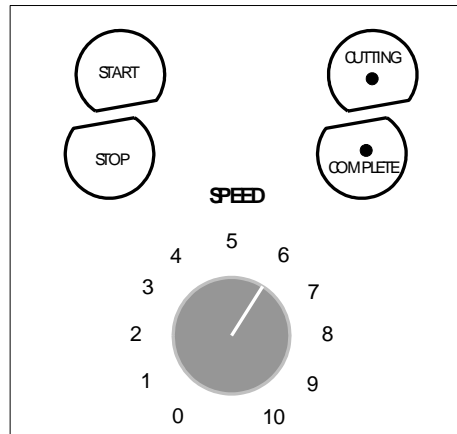

Figure 4: IsoMet Low Speed Control Panel
2. Adjust the SPEED control knob to the desired speed (see Figure 4).